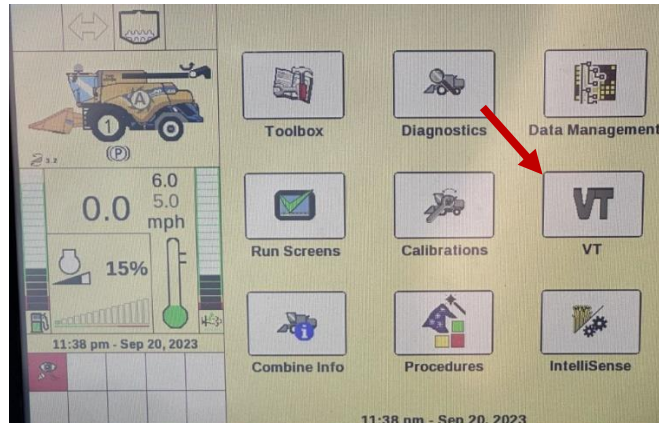

Figure 7.11: Case and New Holland Display Main Page
2. Select the VT icon shown in Figure 7.11.